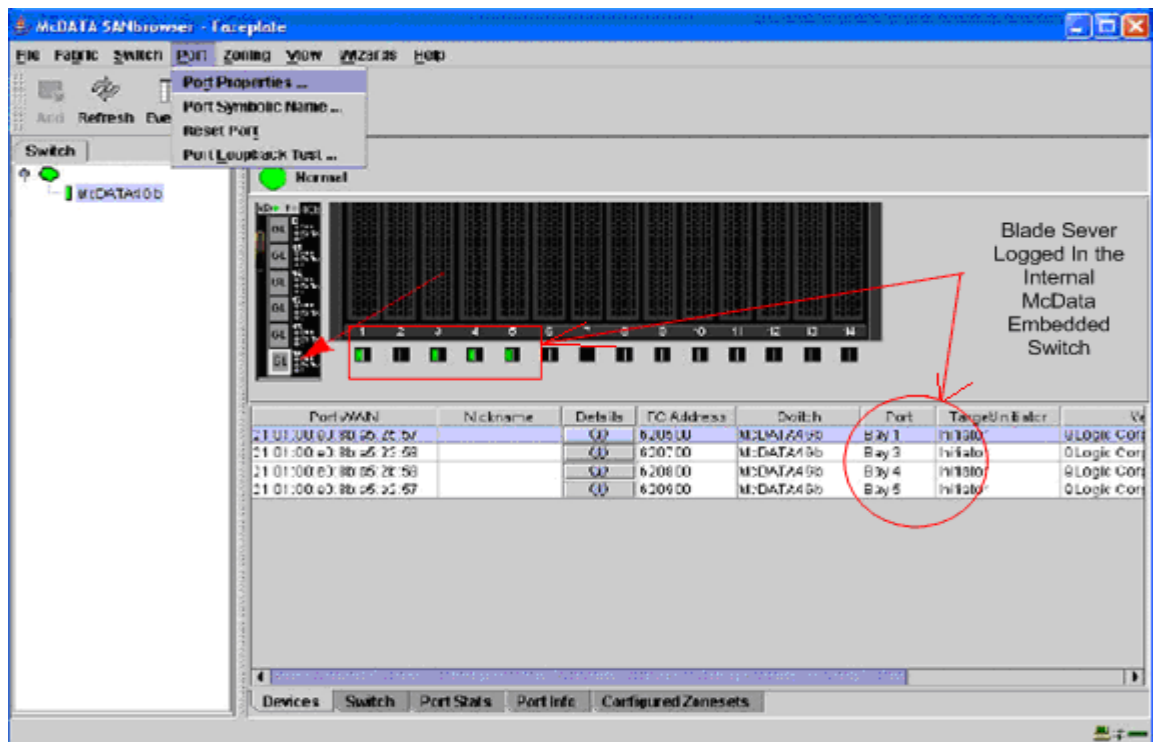

Figure 17: Blade Servers logged in the internal switch
- ii. From the McData SANbrowser - Faceplate window, select your desired E\_Port. Next, select Port → Port Properties (Figure 17). We designated port 19. As you can see, the moment you turn on the internal blade server you will automatically log into the internal embedded switch. (Should you want to directly connect the EMC or any other OEM vendor storage, now is the time to start making zones/zonesets).